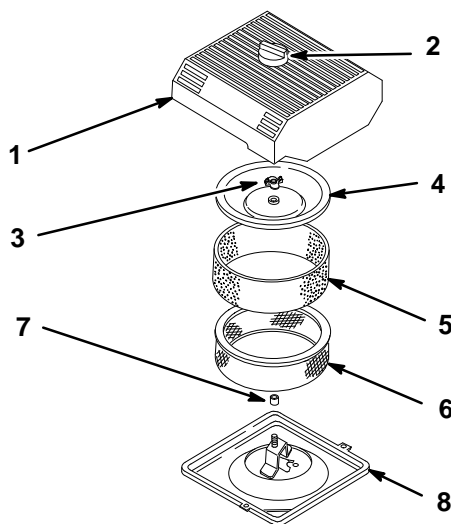

Figure 24
3. Clean around the air cleaner to prevent dirt from getting into the engine and causing damage. Unhook the latches and remove the air cleaner cover (Fig. 24).
4. Carefully slide the foam element off the paper element (Fig. 24).
5. Unscrew the cover nut and remove the cover and paper element (Fig. 24).
1. Carefully slide the foam element onto the paper air cleaner element (Fig. 24).
2. Slide the air cleaner assembly and cover onto the long rod. Now screw the cover nut finger-tight against the cover (Fig. 24).
3. Install the air cleaner cover and hook latches (Fig. 24).